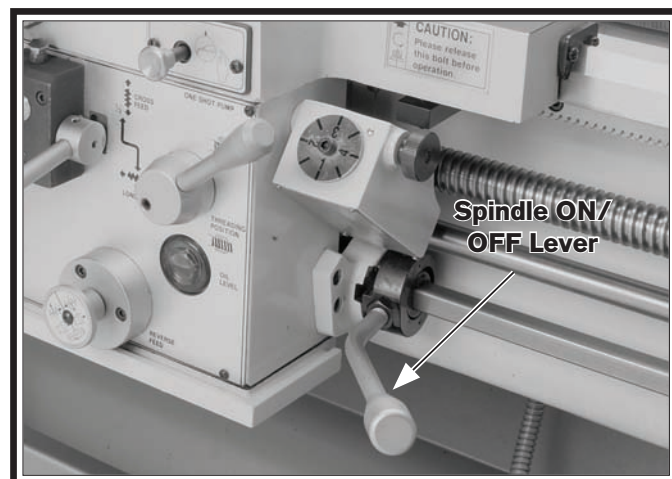

Figure 25. Spindle Lever in ON position.
15. Move the spindle ON/OFF lever (**Figure 25**) down and the chuck will rotate counter-clockwise (down and toward you, as you face the front of the lathe).